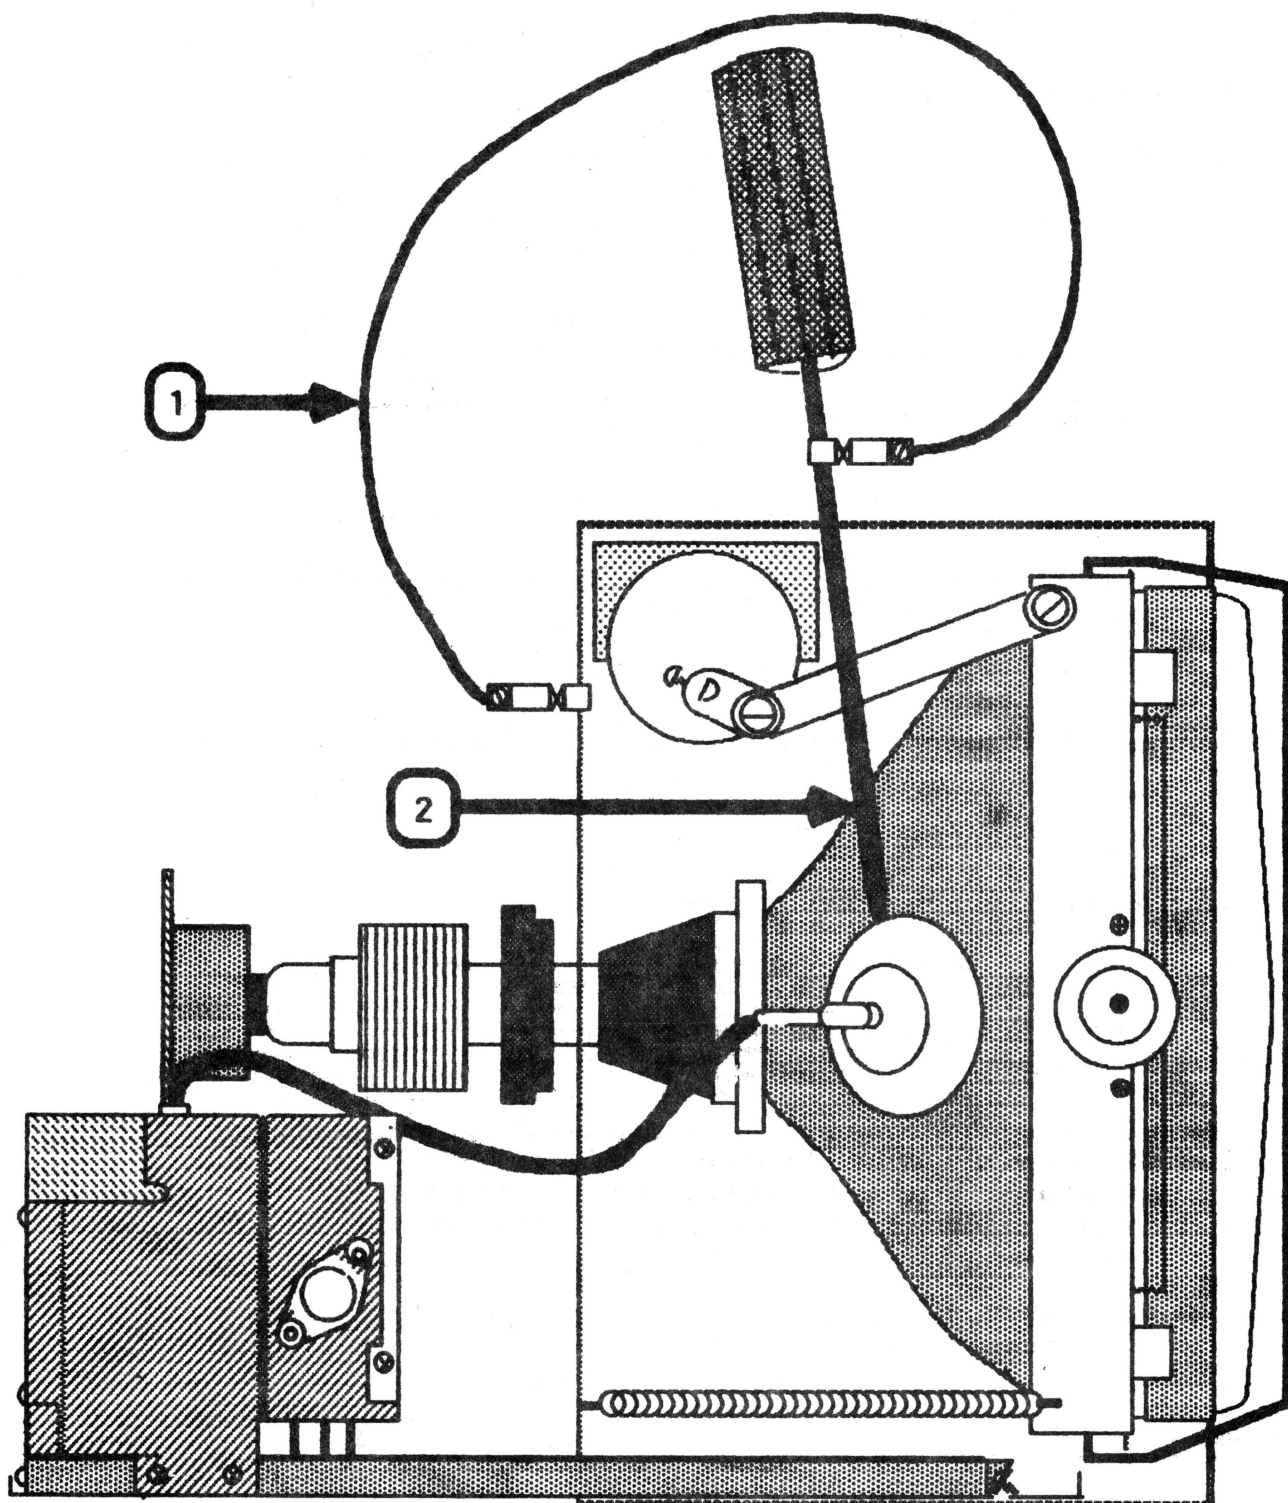

FIGURE 4
7. Attach one end of an alligator lead to a long flatblade screwdriver, two inches from the insulated handle. Attach the other end to any part of the metal chassis surrounding the CRT. (Figure 4, #1).
8. Slide the screwdriver under the CRT anode cap (Figure 4, #2) and push it towards the center of the cap until the blade comes into contact with the metal anode ring.